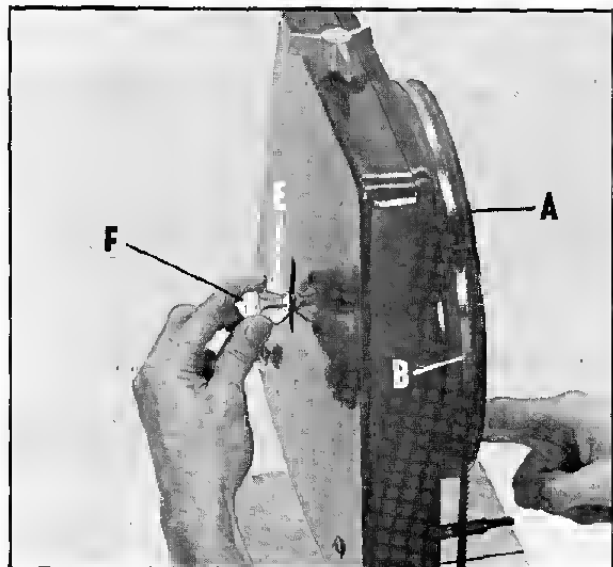

Fig. 17
2. Remove the front guard and turn the upper wheel (A) slowly by hand to determine if the blade (B) is riding in the center of the wheel as shown in Fig. 17.
3. If the blade is not riding in the center of the wheel, loosen locknut (E) Fig. 17, and while turning the wheel by hand, turn the adjusting screw (F) slightly to the left. You will notice that the blade will move to either side of the wheel.
4. When the blade is riding on the center of the upper wheel, tighten locknut (E) Fig. 17.